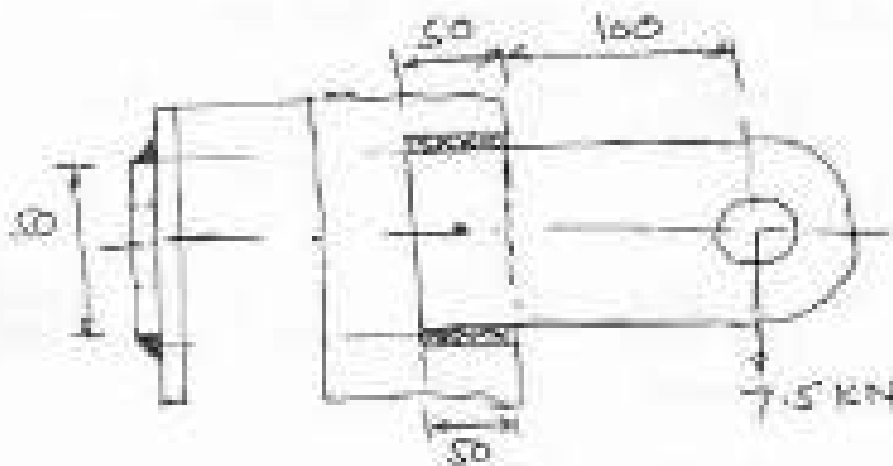

Fig. 2c
- b) A welded connection as shown in figure 2c is subjected to the eccentric force of 7.5kN. Determine the size of welds if the permissible shear stress for the weld is  $100 \text{ N/mm}^2$ . Assume static conditions.